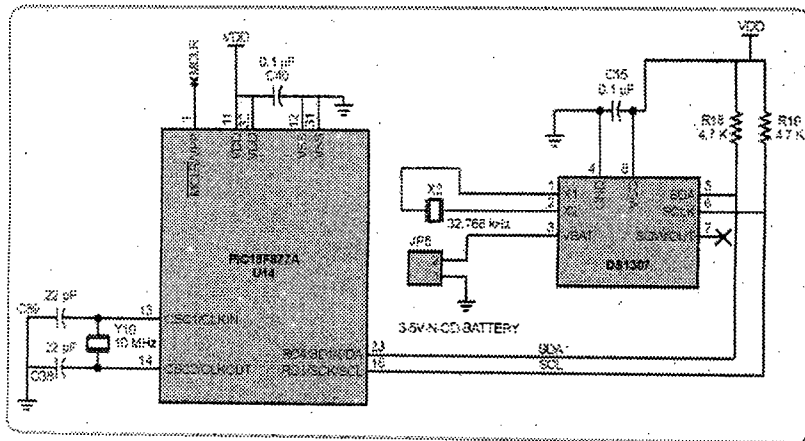

Fig. Q.17.1 RTC interface to PIC18FXXXX
- The complete interface diagram is shown in Fig. Q.17.1
The Complete interfacing diagram of RTC is same is Fig. Q.17.1.